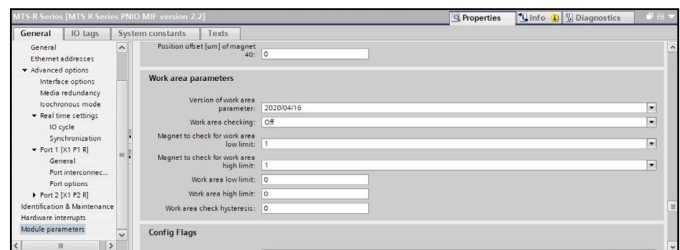

Fig. 67: Setting the switching points for the work area
- **Setting the switching points for input module “Sensor status 2”:** To read the information from the input module “Sensor status 2”, drag this module into the “Device Overview” window. In the “Module parameters” section of the sensor, you can set the parameters for switching points under “Work area parameters” (Fig. 67):